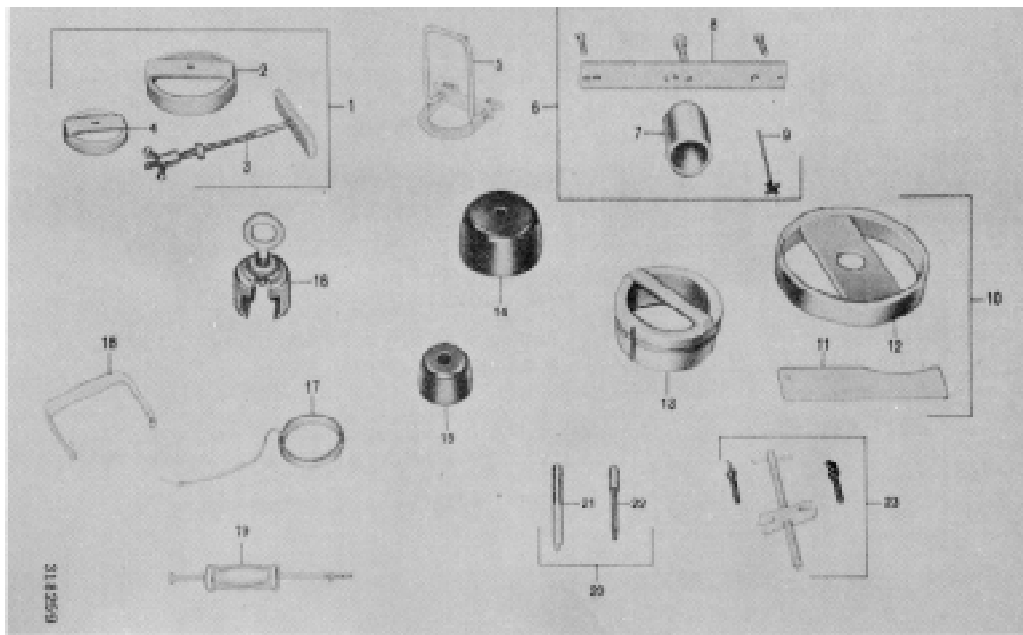

Fig. 4-2 Special tools (1 through 23)
b. Special Tools. Special tools are illustrated in figures 4-2, 4-3 and 4-4. They are identified in the tables following the illustrations.
SPECIAL TOOLS TABLE (fig. 4-2, 4-3, 4-4)
SPECIAL TOOLS TABLE (fig. 4-2, 4-3, 4-4) (cont'd)